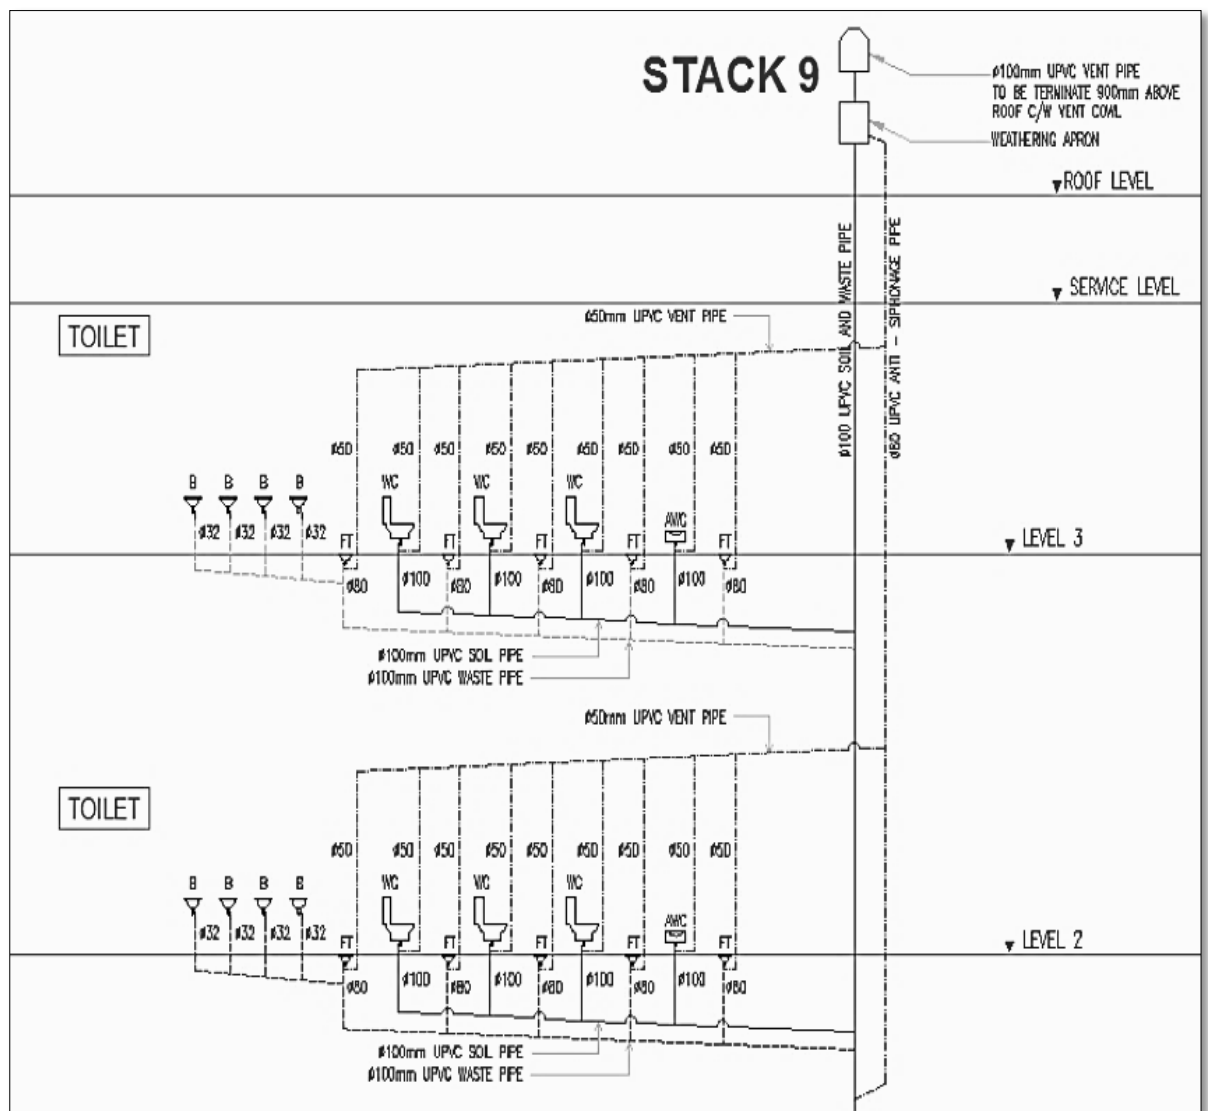

Figure 3c / Rajah 3c
- (c) The purpose of the sanitary system is to remove effluent discharged from plumbing fixtures and other equipment to an approved disposal point. Referring to Figure 3c, calculate the total number of discharge units on levels 2 and 3 based on the capacity in Table 3c below.